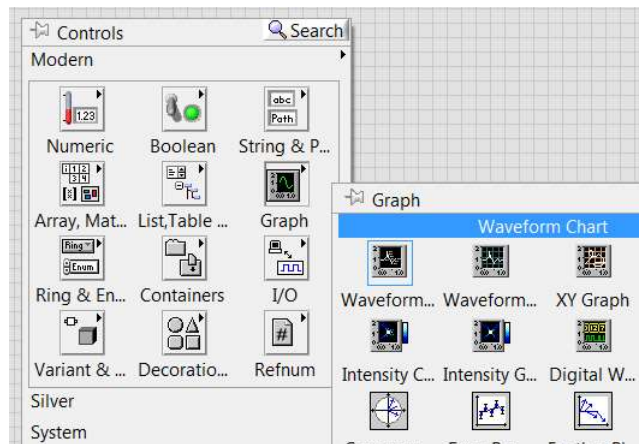

Fig. 3.16: Selecting a **Waveform Chart** indicator to be placed in the front panel
- Place a **Waveform Chart** indicator (Fig. 3.16);